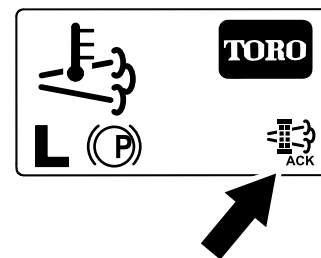

Figure 89
8. The InfoCenter displays the home screen and the regeneration acknowledge icon (Figure 89) appears in the lower right corner of the screen as the regeneration processes.